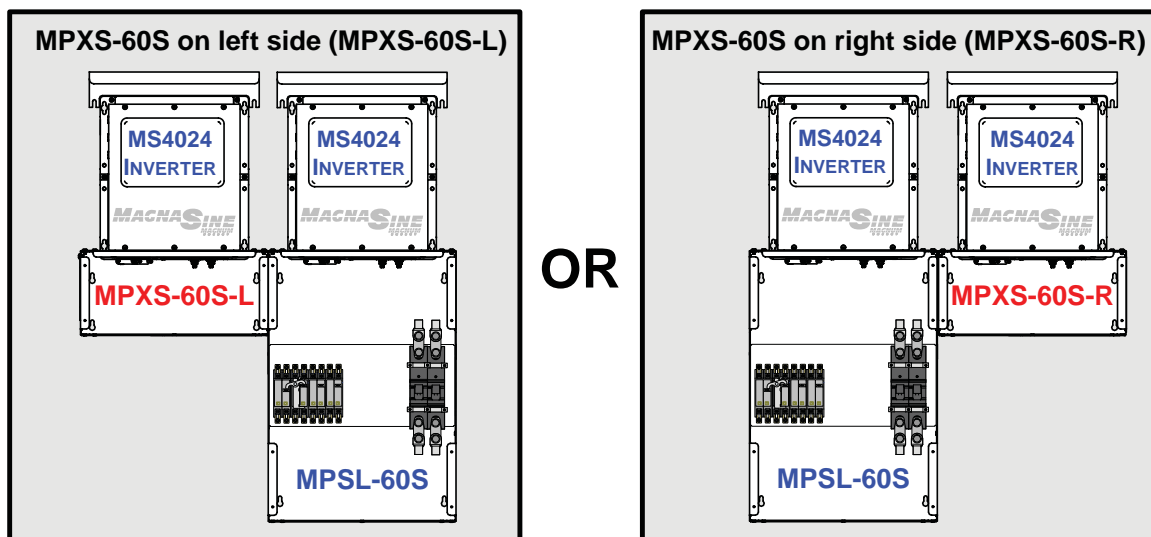

Figure 2-3, MPXS-60S Installation Configurations
The three models in the MPX Series are: the MPXS-30D, MPXS-60S, and the MPXD-30D (see Figures 2-3 to 2-5). The MPXS-30D model is designed for use with a single MP enclosure (MPSL-30D and MPSH-30D), the MPXS-60S is only used with the MPSL-60S, while the MPXD-30D is designed for use with a dual MP enclosure (MPDH-30D). Each model comes in a left (L) and right (R) version. The 'right' version (MPXS-30D-R, MPXS-60S-R, or MPXD-30D-R) is used when the MPX is mounted to the right of the MP enclosure, and the 'left' version (MPXS-30D-L, MPXS-60S-L, or MPXD-30D-L) is used when the MPX is mounted to the left of the MP enclosure. The left version differs from the right only in that the length of the supplied DC cables are different to accommodate the difference in distance from the MP's DC breaker to the new installed inverter.